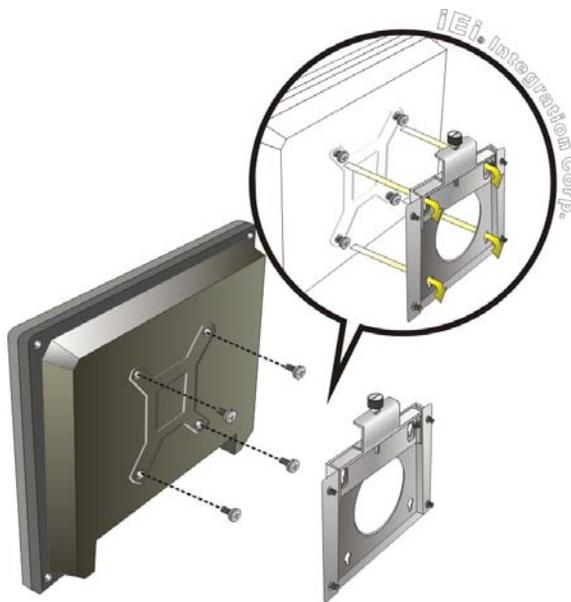

Figure 4-17: Chassis Support Screws
Step 6: Insert the four monitor mounting screws provided in the wall mount kit into the four screw holes on the rear panel of the flat bezel panel PC and tighten until the screw shank is secured against the rear panel (**Figure 4-17**).
- Step 8:** Carefully insert the screws through the holes and gently pull the monitor downwards until the monitor rests securely in the slotted holes (**Figure 4-17**). Ensure that all four of the mounting screws fit snugly into their respective slotted holes.